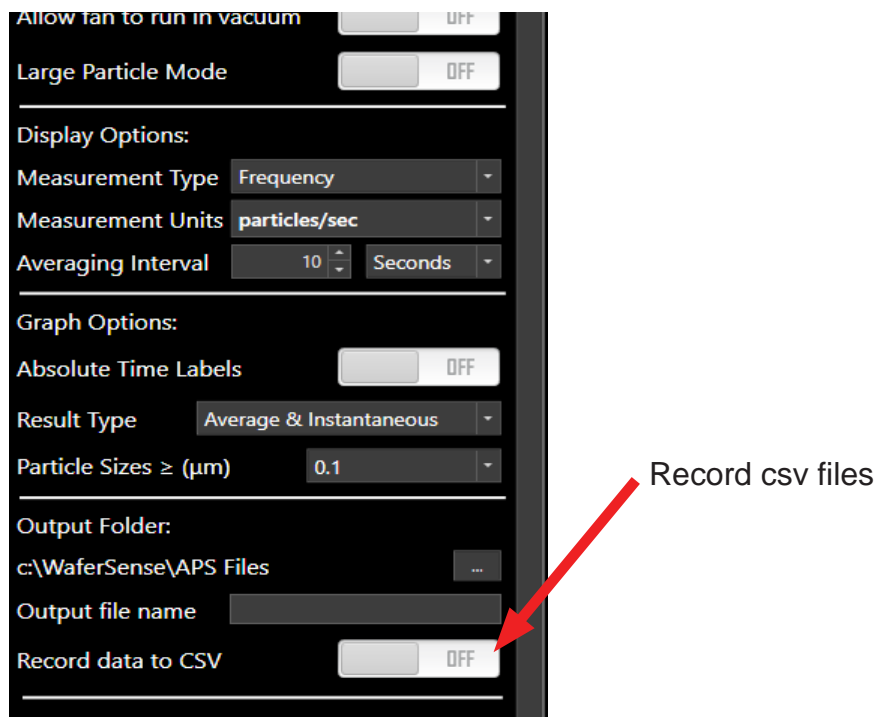

Figure 3.14: Recording Comma-Delimited Files
1. Choose the menu item **Settings > Output Folder**. The Log File Options dialog is displayed (see Figure 3.14).